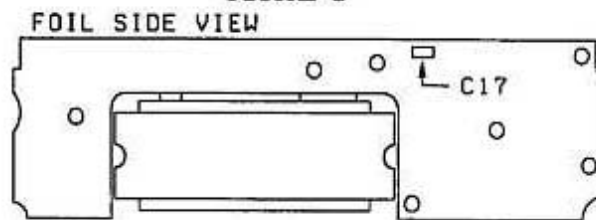

FIGURE 3
6. Remove the two black shades from the Balance and Sub-Squelch controls. Figure 3.
7. Remove the three brass colored screws from Control board B/3. Figure 3.
32. Replace C107 with the 220 μF electrolytic. C107 is located between the Main and Sub rotary endoders. Figure 3.
11. Replace C17. Figure 3.